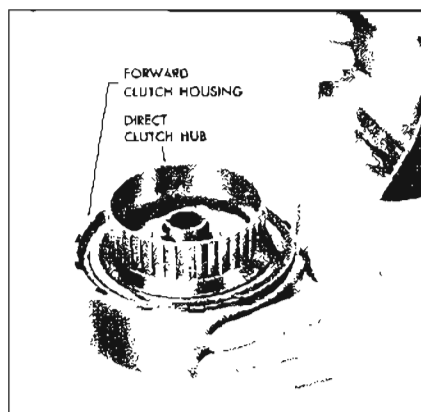

Figure 5-621
10. Install the direct clutch hub and retaining snap ring. See Figure 5-621.